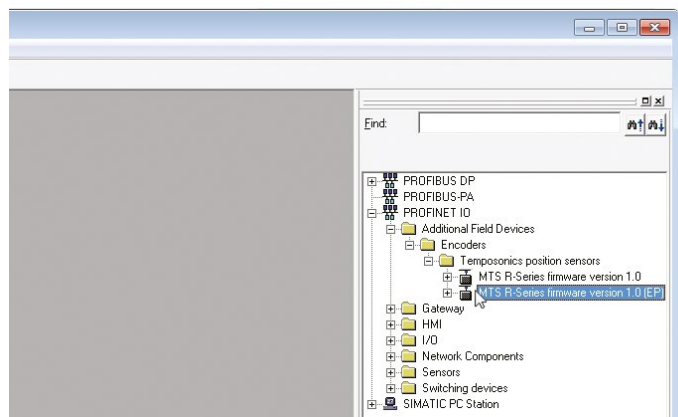

Fig. 72: Select Encoder profile 4.1 (source: Siemens)
- Select the encoder profile 4.1 from the directory displayed on the right (Fig. 72).